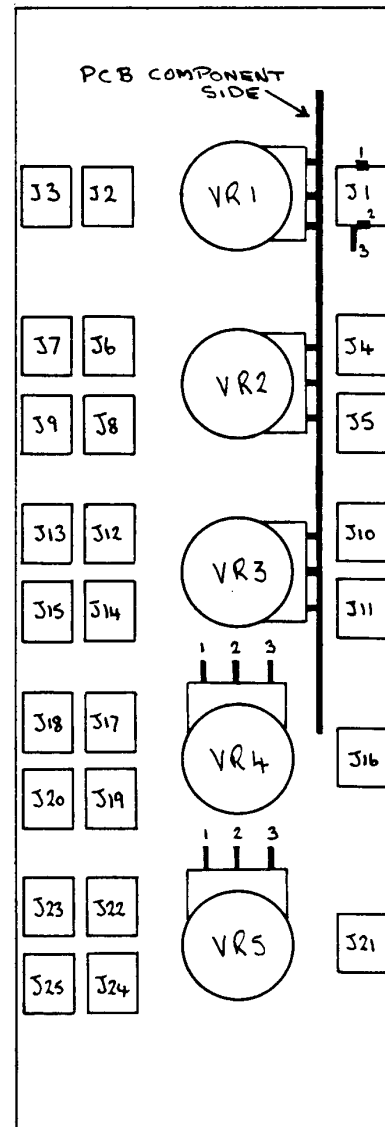

FIGURE 3. REAR VIEW OF 80-5 PANEL
c) Mount all panel components and wire up the Attenuators VR 4 and VR 5 (refer to the general construction notes for the 80 series if in doubt). The ground (0V) wire may be omitted at this time. Insert VR 1 to VR 3 with the PCB and wire up using the directions given in Figure 2 and the rear view of the panel shown in Figure 3. Connect a wire to the 0V point on the PCB and take to both VR 4 and VR 5 (pin 1 in each case) and also to the ground point of the jack sockets.